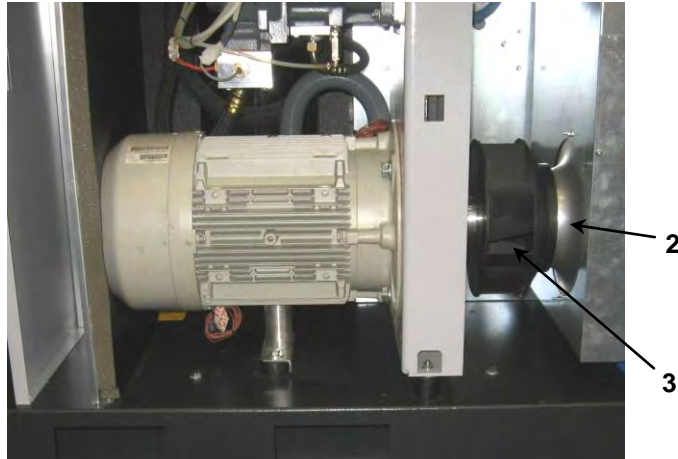

FIG. 31
25.1 TA ISÄR KYLFLÄKTEN OCH MATAREN (fig. 31)